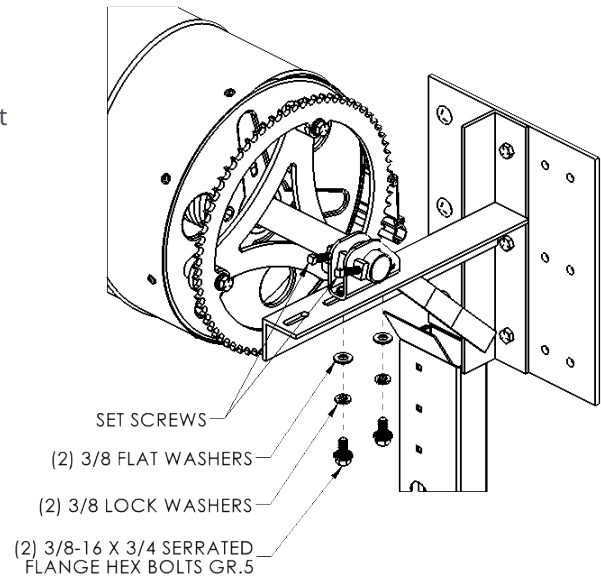

figure 15: Securing Stamped Axle Support
- ✦ Attach Stamped Axle Support to T-bracket using (2) each 3/8-16 x 3/4 serrated hex bolts, 3/8 lock washers and 3/8 flat washers. See Figure 15.